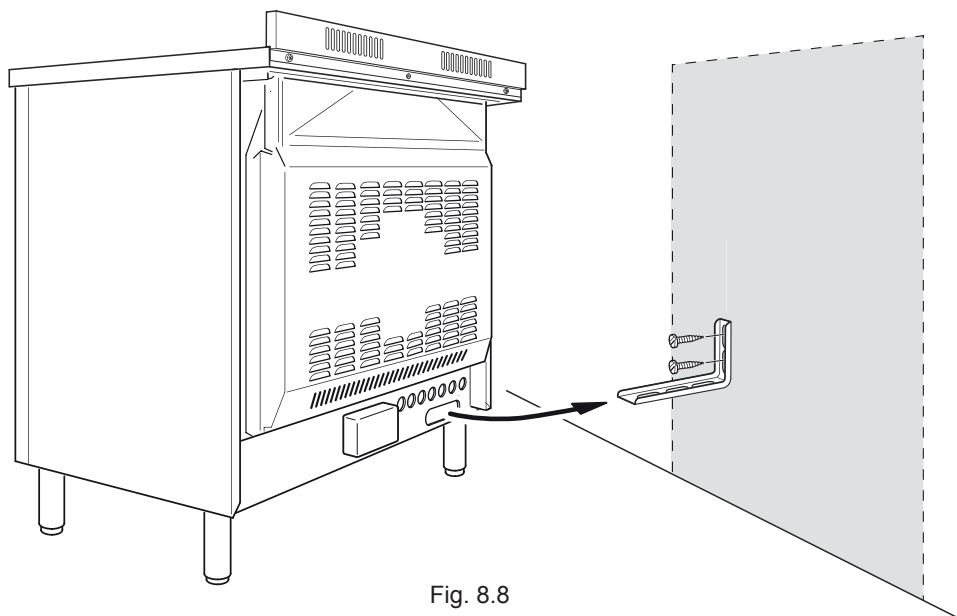

Fig. 8.8
1. After you have located where the cooker is to be positioned, mark on the wall the place where the 2 screws of the anti-tilt bracket have to be fitted. Please follow the indications given in fig. 8.8.
4. Move the cooker to the wall and adjust the height of the anti-tilt bracket so that it can engage in the slot on the cooker's back, as shown in fig. 8.8.